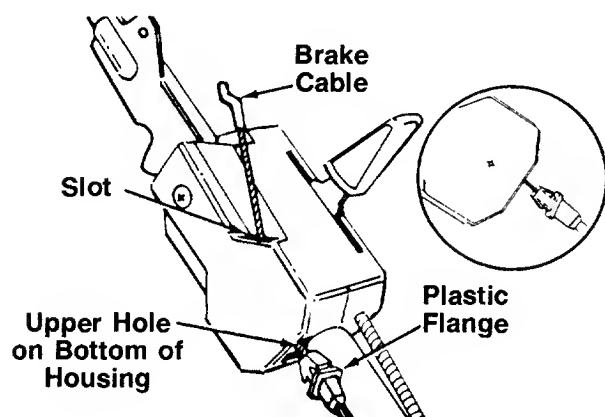

FIGURE 4.
1. The brake cable is attached to the engine, and has a "Z" fitting on the loose end. Route the brake cable in back of the engine, to the outside of the height adjustment handle and handle mounting bracket, and below the lower handle. Place end of cable into the upper hole on the bottom of the control housing, and through the slot as shown. The angle of the plastic flange must be positioned downward as shown in figure 4. Be careful not to bend or kink the cable at any time.